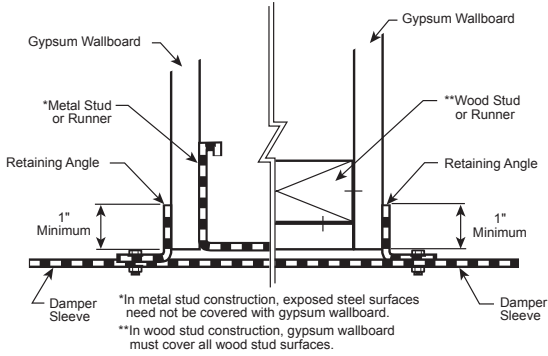

Figure 3
- b. Fasten gypsum wall board 12 inches on center to all stud and runner flanges surrounding opening. Refer to Figure 3.